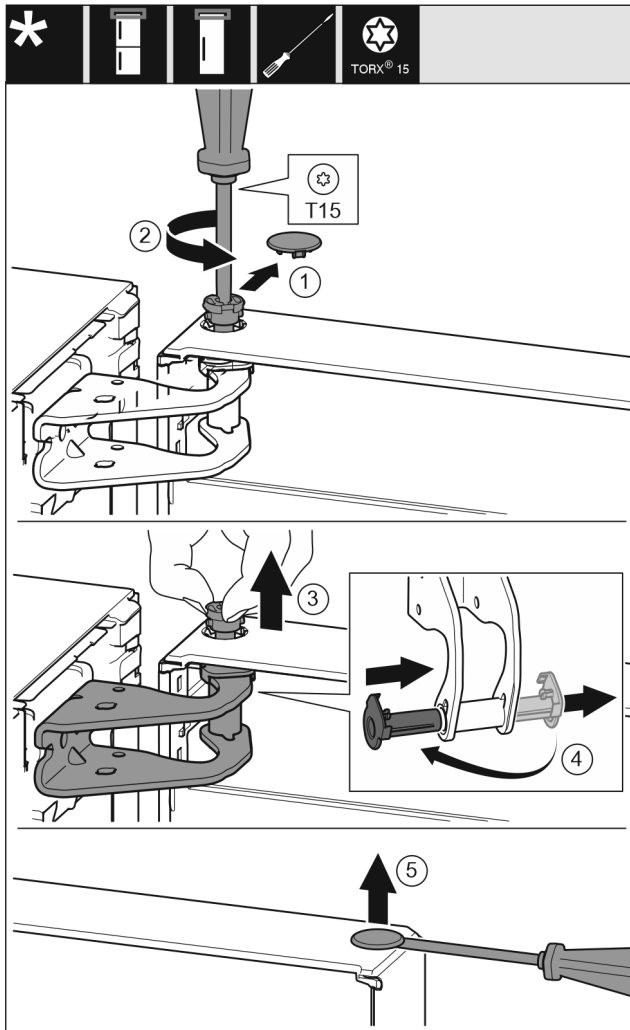

Fig. 7
- ▶ Carefully remove the protective cover. Fig. 7 (1)
- ▶ Loosen the bolts slightly with a T15 screwdriver. Fig. 7 (2)
- ▶ Hold the door and remove the bolts with your fingers. Fig. 7 (3)
- ▶ Pull the bearing bush out of the guide. Insert from the other side and latch into place. Fig. 7 (4)
- ▶ Carefully lift the plugs out of the door bearing bush with a slotted screwdriver and remove them. Fig. 7 (5)